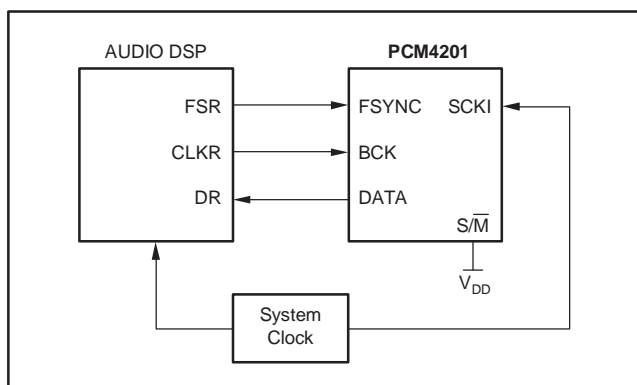

**Figure 3. Audio Serial-Port Frame Format**
The PCM4201 audio serial port is a 3-wire synchronous serial interface comprised of the audio serial data output, DATA (pin 9); a frame synchronization clock, FSYNC (pin 10); and a bit or data clock, BCK (pin 11). The FSYNC and BCK clocks may be either inputs or outputs, supporting either Slave or Master mode interfaces, respectively. The audio data format is 24-bit linear PCM, represented as two's complement binary data with the MSB being the first data bit in the frame. Figure 3 illustrates the audio frame format, while Figure 4 and the Electrical Characteristics table highlight the important timing parameters for the audio serial port interface.
Slave mode operation requires that the FSYNC and BCK clocks be generated from an external audio processor or master timing generator, as shown in Figure 5. Both clocks are inputs in Slave mode. The FSYNC clock rate is the equal to the desired output sampling frequency,  $f_S$ . The FSYNC high pulse width must be equal to at least one BCK clock period. The BCK clock rate should be  $128f_S$  for Normal Speed, High Performance sampling mode. A BCK rate equal to  $64f_S$  results in no output for this sampling mode. For Normal Speed, Low Power sampling mode, the BCK rate may be  $64f_S$  or  $128f_S$ . See Note (2) in Figure 3 regarding the FSYNC edge used for start of frame when  $BCK = 128f_S$  for this sampling mode. For Double Speed sampling mode, the BCK rate should be  $64f_S$ .
Changed order of notes in Figure 3 to accommodate new Note (2).